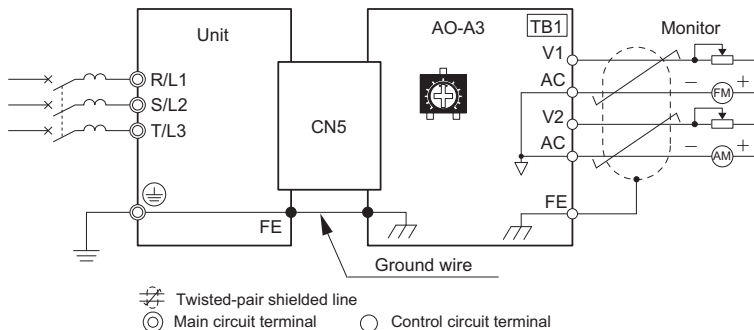

Figure 8 Option Connection Diagram
- Wire the customer-supplied circuit to the terminal block on the option. Refer to **Figure 8** for wiring instructions.